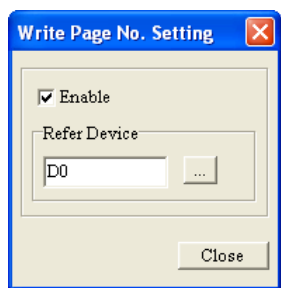

Figure 5-10 Write Page No. Setting window
**Write Page No. Setting** is used to write the number assigned to the page which is opened to a device. After users click **Write Page No. Setting** on the **Local Page Setting** menu, or right-click a page and then click **Write Page No. Setting** on the context menu which appears, the **Write Page No. Setting** window will appear, as shown in Figure 5-10. After the users click the **Enable** checkbox, they can click ... in the **Refer Device** section. After the users click ... in the **Refer Device** section, the **Refer Device** window will be opened. Please refer to section 4.1.1 for more information.